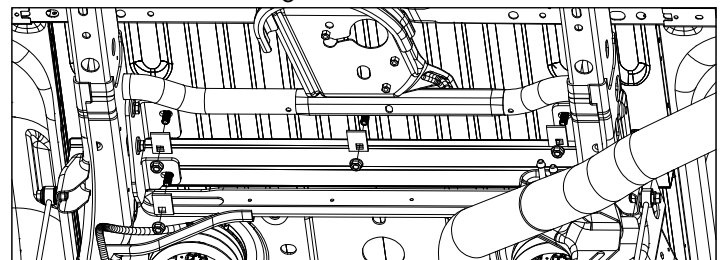
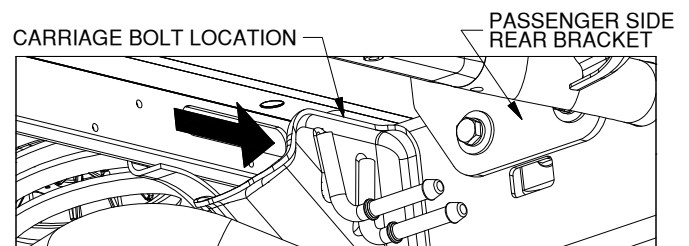

FIGURE C6: View looking up at the bottom of the truck bed.
FIGURE C7: View looking at passenger side frame and bed crossmember
8. **Fasten the rear mounting rail.** Install an offset square hole washer and 1/2" flange nut on each of the carriage bolts passing down through the bed as shown in figure C6. Do not tighten at this time. The passenger side 1/2" x 4 1/2" carriage bolt can be accessed from a space in the frame geometry next to the bolt, see figure C7. Use the space to thread the offset square hole washer and 1/2" flange nut. Use a box end wrench to tighten this nut.